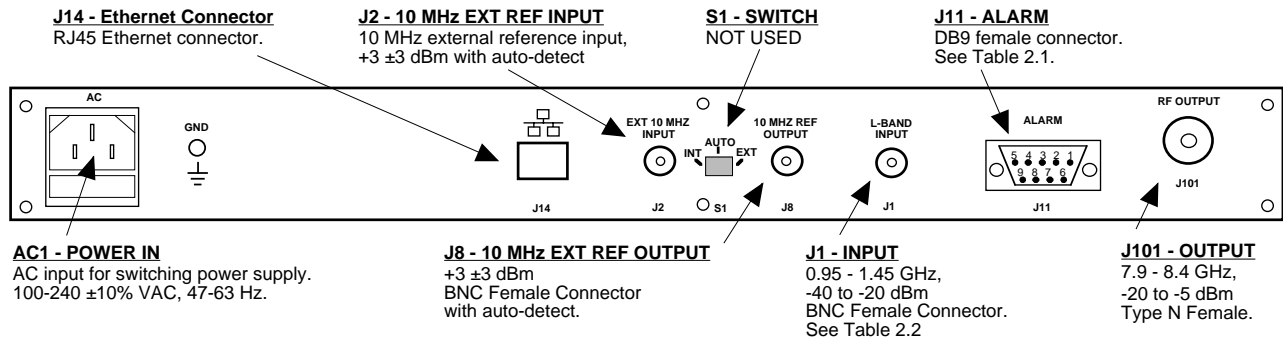

FIGURE 2.1 3115-79 Rear Panel I/O's
Figure 2.1 shows the input and output connectors on the rear panel.
1. Connect a -40 dBm to -20 dBm signal to RF IN, J1 (Figure 2.1).